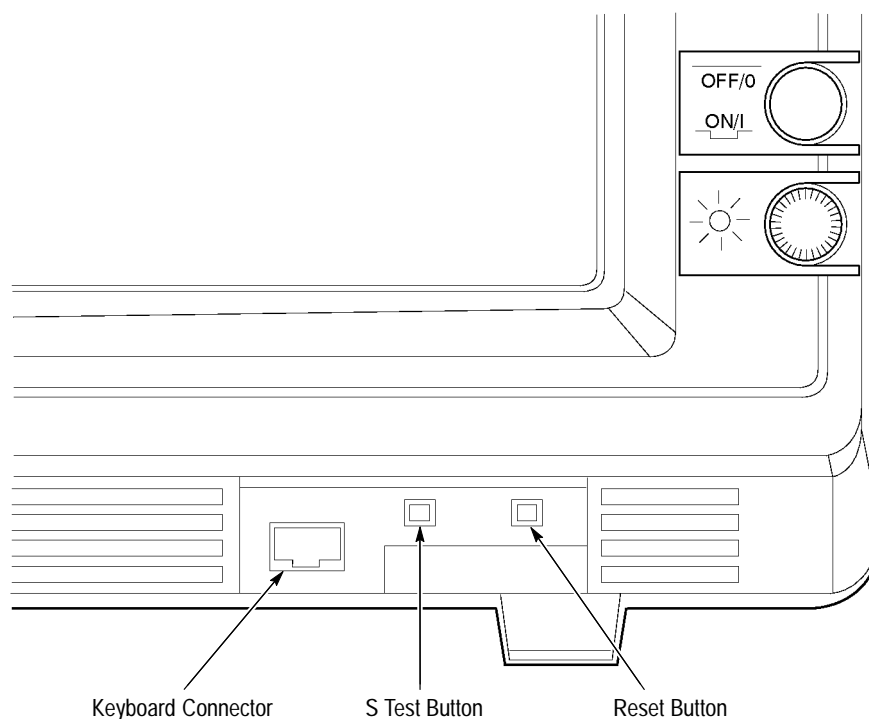

Figure 4-2: Location of S TEST and RESET Buttons on the 9201T Front Panel
1. Locate the S TEST and RESET buttons on the front of the terminal. (See Figure 4-2.)